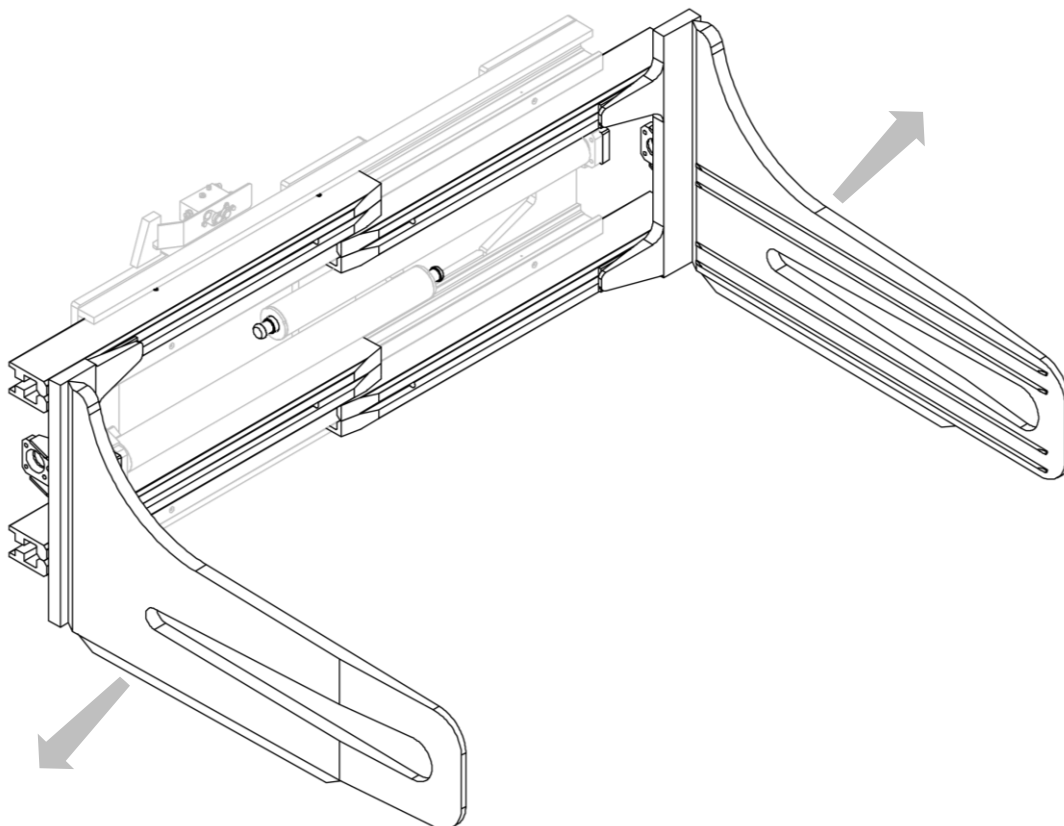

Figure 18
4. Remove the forks with their jaws, from their housings (see *Figure 18*).